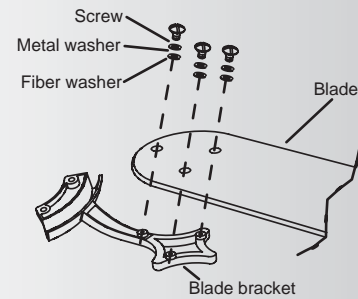

Fig. 16
Step 1 Attach the blade to the blade bracket using the screws, washers and fiber washers as shown in Figure 16. Start screw into bracket. Repeat for the two remaining screws.
Step 2. Make sure the blade is straight and tighten each screw until fiber washer is slightly compressed and all three screws are secure. (Fig. 16)